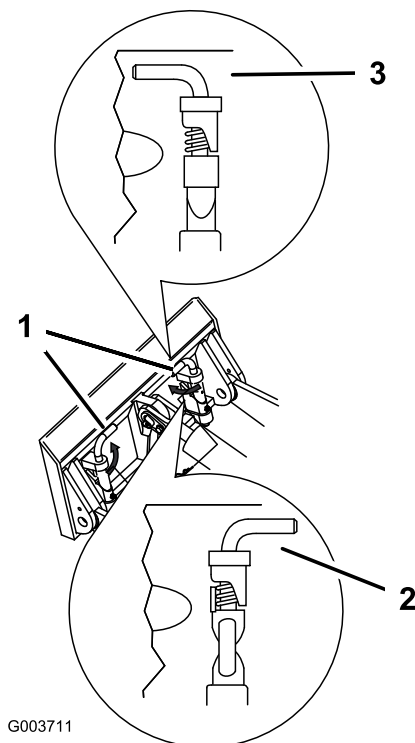

Figure 21
7. Engage the quick-attach pins, ensuring that they are fully seated in the mount plate (Figure 21).